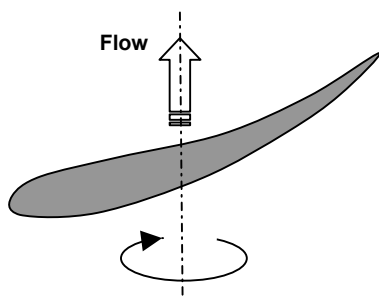

Figure 1
Standard rotation is clockwise when viewed into the air-stream. See figure 1.
- f. ‘Bump’ the motor to check for clockwise rotation of the impeller, when viewed into the air stream (also see figure 1).